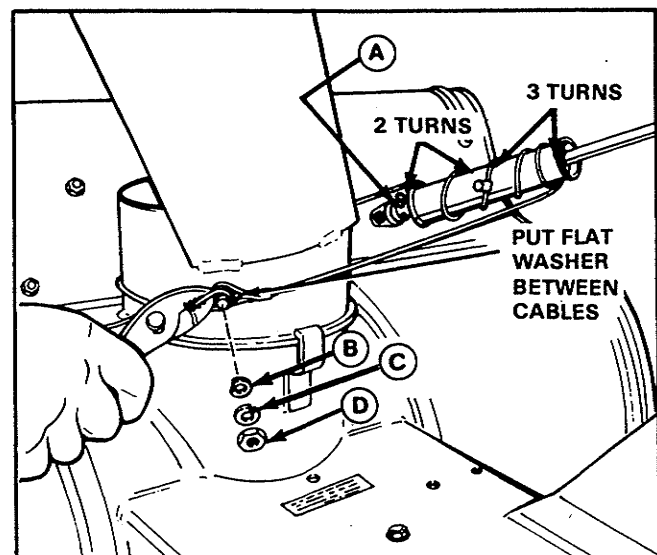

Figure 17. Spout Control Cable
3. Place the thin plastic rod guide liner (B) inside the rod guide (K). Place the rod guide over the spout control rod and attach the rod guide to the support arm with the 1-1/2 inch (38 mm) long capscrew and locknut provided. Install the locknut flush with the end of the capscrew.
4. Install the spout extension (A) on the snowthrower housing so the clip (G) is positioned in the notch (J) on the spout extension. Oil the spout extension so it turns freely.
5. With the spout extension facing slightly left, wind the cable around the control rod spool as shown in figure 17. Wind three turns on the rear part of the spool so that the cable leaves the spool on the lower edge as shown. Wind two turns on the front part of the spool so that the cable leaves the spool on the upper edge as shown.
6. Place the looped end of the cable over the stud on the spout extension (see figure 17). Place the small flat washer provided on the stud. Pull the other end of the cable around the stud as shown with a pliers. While holding the cable tight, install the cup washer (facing inward), lockwasher and nut to hold the cable. Tape any loose cable neatly to the taut cable.